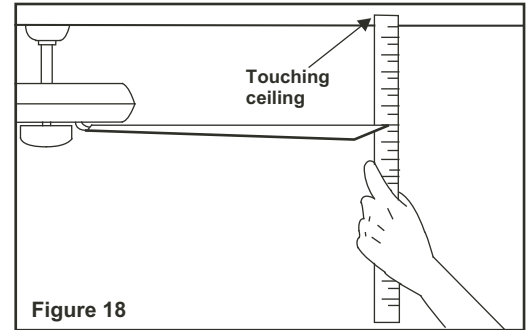

Figure 18
2. Most fan wobbling problems are caused when blade levels are unequal. Check this level by selecting a point on the ceiling above the tip of one of the blades. Measure this distance as shown in Fig. 18. Rotate the fan until the next blade is positioned for measurement. Repeat for each blade. The distance deviation should be equal within 1/8".